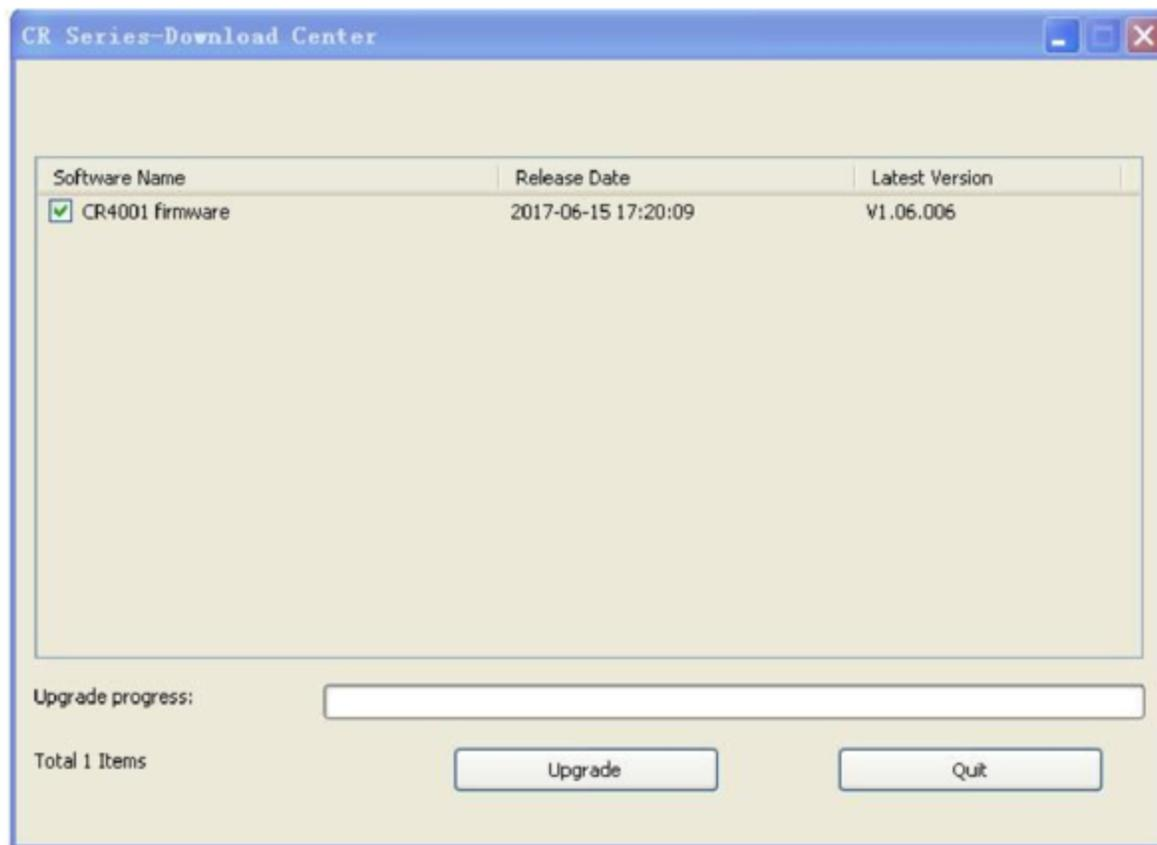

Figure 7-2
5. Once the tool is powered up, launch the update tool on your PC, the system identifies the device information and directly navigates to the update center (See Figure 7-2).